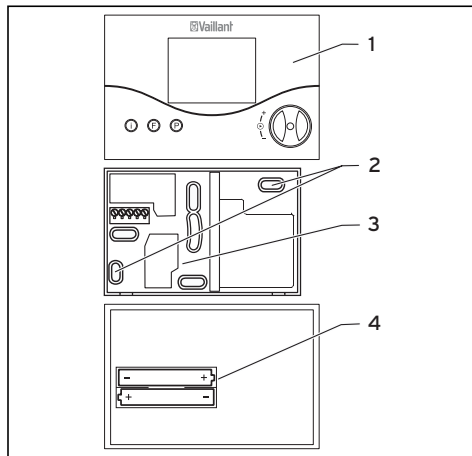

Fig. 9.3 Mounting the room temperature thermostat
- Pull the room temperature thermostat (1) off the wall plinth (3).
- Drill two holes (2) of 6 mm diameter (as shown in fig. 9.3) and put in the supplied wall plugs.
- Insert the batteries supplied into the battery compartment at the back of the regulator (Fig. 9.3, Item **4**). Make sure that the polarity of the batteries is correct. Connect the connection cable as per Chapter 10.